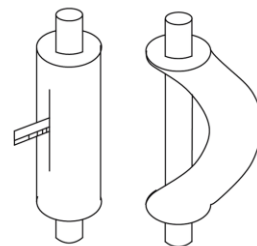

Fig. 14
- (2) Do not bend the pipe over  $90^\circ$  .
- (3) If pipe is repeatedly bent or stretched, it will get hard and difficult to bend and stretch again. Therefore, do not bend or stretch the bend for over 3 times.
- (4) In case that direct bending will open cracks to the pipe, first use sharp cutter to cut the insulating layer, as shown in Fig.14. Do not bend the pipe until it is exposed. When bending is done, wrap the pipe with insulating layer and then secure it with adhesive tape.